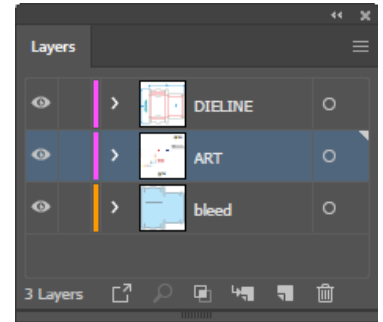

Figure 1
- **Make sure the graphics, and dielines are on separate layers.** (Figure 1)